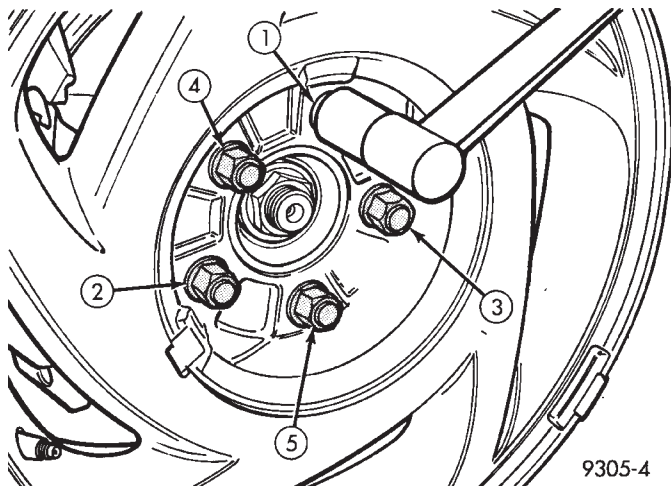

Fig. 8 Tightening Wheel Nuts
(5) Install the wheel and tire assembly.
(6) Tighten the wheel mounting stud nuts in proper sequence (Fig. 8) until all nuts are torqued to half specification. Then repeat the tightening sequence to the full specified torque of 129 N•m (95 ft. lbs.).